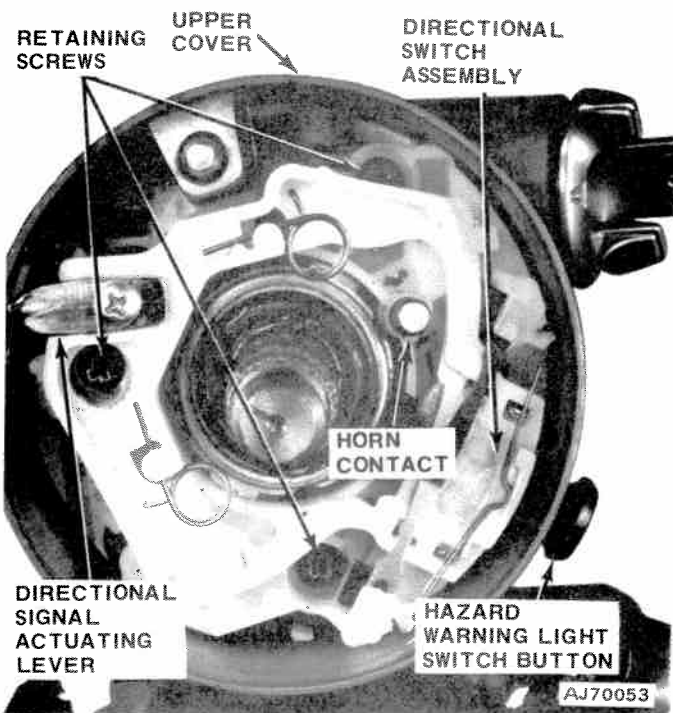

Fig. 11-6 Directional Switch
(7) Place directional signal actuating lever in the right turn position and remove lever.
(8) Depress hazard warning light switch, located on right side of column adjacent to key lock, and remove button by turning counterclockwise.
(9) Remove directional signal wire harness connector block from its mounting bracket on right side of lower column. On vehicles equipped with automatic transmission, use a stiff wire such as a paper clip to depress the lock tab which retains the shift quadrant light wire in the connector block. Disconnect the wire.
(10) Remove directional signal switch retaining screws and pull directional signal switch and wire harness from the column (fig. 11-6).